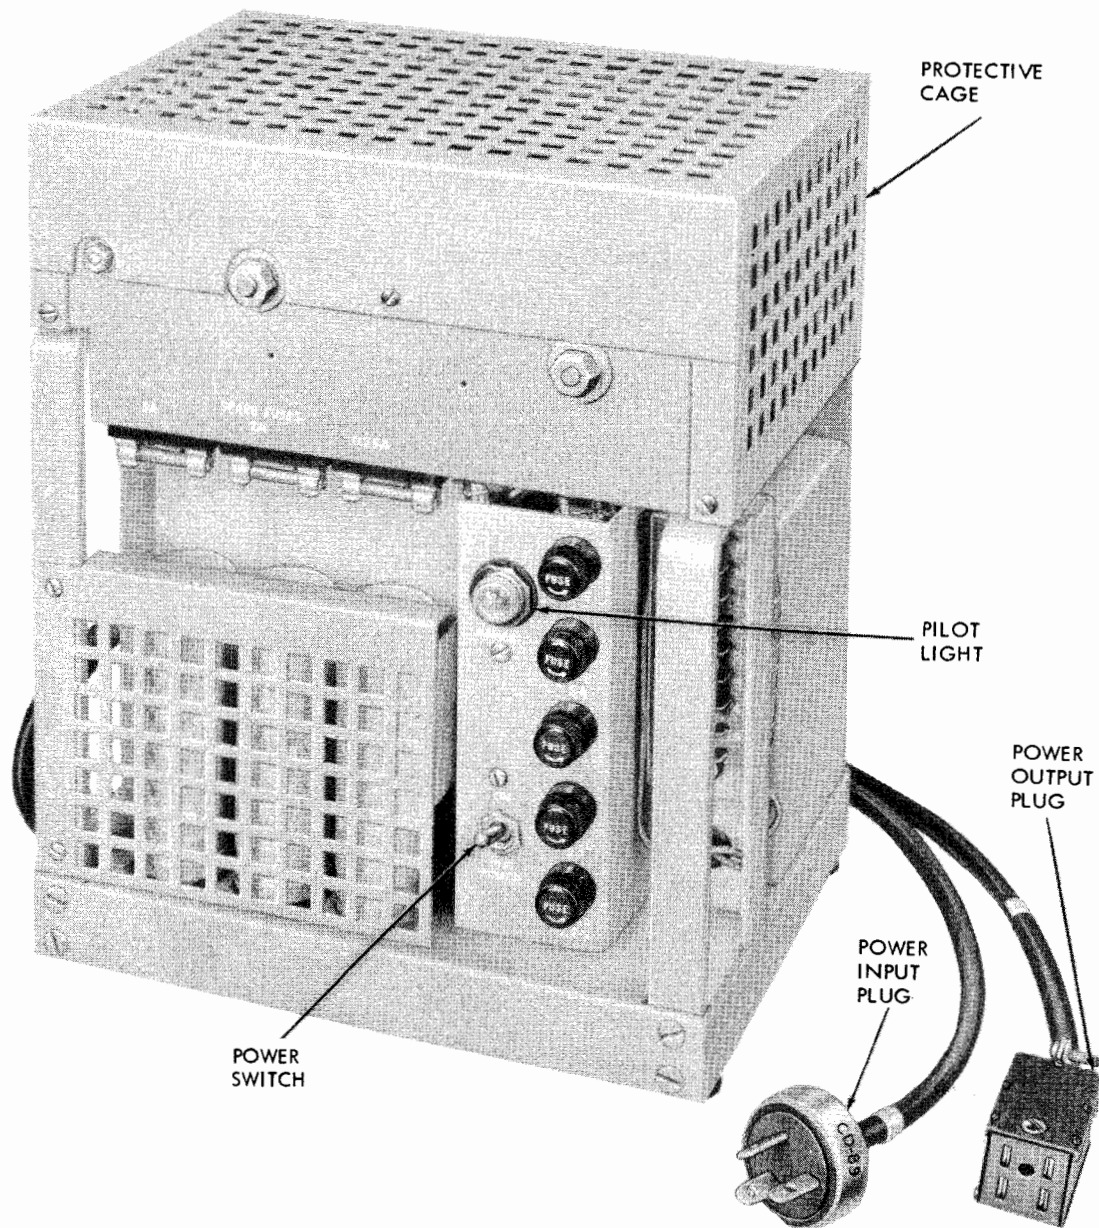

Figure 1-13. Power Supply PP-987/U, Front View
(2) DIFFERENCE BETWEEN UNITS.—The Time Stamp MX-1527/U is the same in all models.
j. POWER SUPPLY PP-987/U.—One power supply is included with each receiver and transmitter group to supply all of the d-c voltages necessary for operation of the two groups (see figure 1-13). The power supply is housed in a metal cage to protect it and is mounted in the bottom of each group. The component contains dry-disk rectifiers, a transformer, and associated parts and wiring.